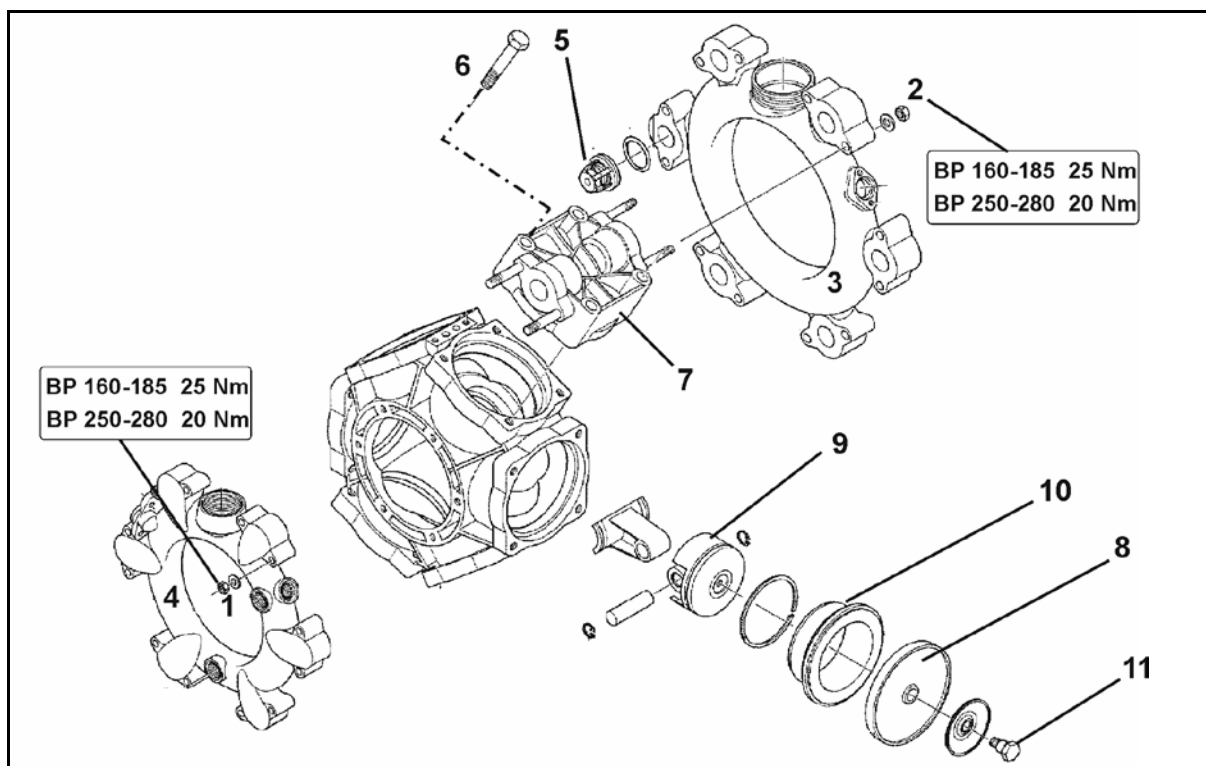

Fig. 192
- At least once a year, check that the piston diaphragm (Fig. 192/8) is in perfect condition by removing it.
- Pay attention to the respective installation positions of the valves on the suction and pressure sides before removing the valve groups (Fig. 192/5).
- As a rule, replace all piston diaphragms (Fig. 192/8), even if only one piston diaphragm distorted, punctured or porous.
2. Remove nuts (Fig. 192/1, 2).
3. Remove the suction and pressure port (Fig. 192/3 and Fig. 192/4).
4. Remove the valve groups (Fig. 192/5).
5. Remove the nuts (Fig. 192/6).
6. Remove the cylinder head (Fig. 192/7).
7. Check the piston diaphragm (Fig. 192/8).
- Secure the piston diaphragm (Fig. 192/8) with a washer disc and a screw (Fig. 192/11) on the piston (Fig. 192/9), so that the rim shows on the cylinder head side (Fig. 192/7).
- Always tighten the nuts (Fig. 192/1,2) in a crosswise fashion using the specified torque. Improper tightening of the screws causes warping, which results in leaks.
1. Undo the screw (Fig. 192/11) and remove the piston diaphragm (Fig. 192/8) and the washer disc from the piston (Fig. 192/9).
3. Remove the hydraulic cylinder (Fig. 192/10) from the pump housing.
6. Insert the cylinder (Fig. 192/10) back into the pump housing.
7. Fit the piston diaphragm (Fig. 192/8).
8. Mount the cylinder head (Fig. 192/7) on the pump housing and tighten the screws (Fig. 192/6) an equal amount in a crosswise fashion.
9. After testing and cleaning, fit the valve groups (Fig. 192/5).
11. Mount the suction (Fig. 192/3) and pressure port (Fig. 192/4) on the pump housing.
12. Tighten the nuts (Fig. 192/1,2) in a crosswise fashion using a torque of **25 Nm (BP 160-185) / 20 Nm (AR 250-280)**.